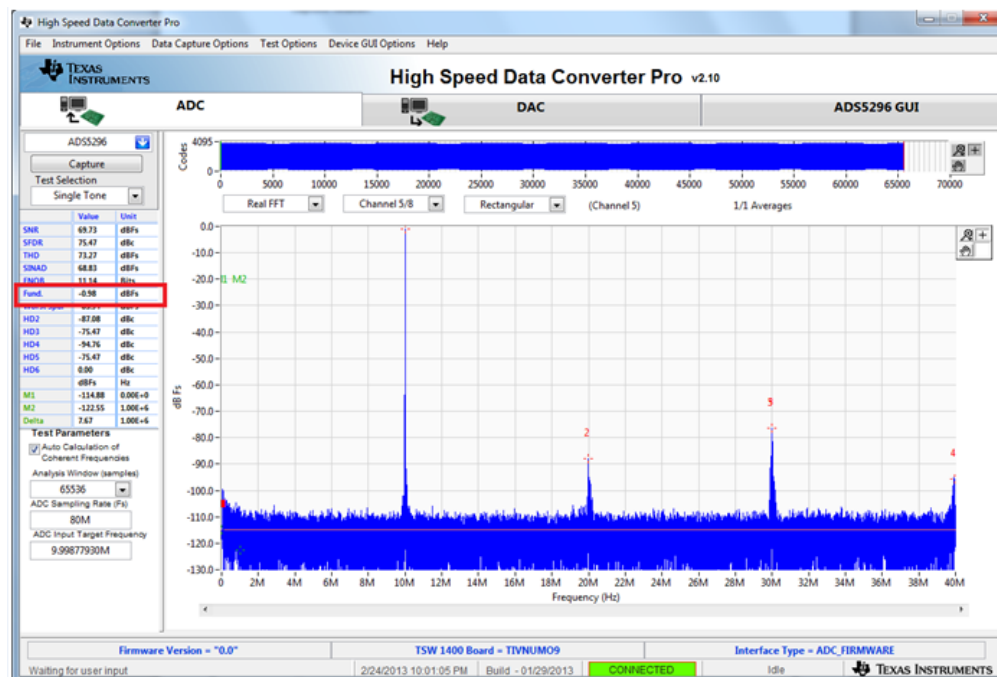
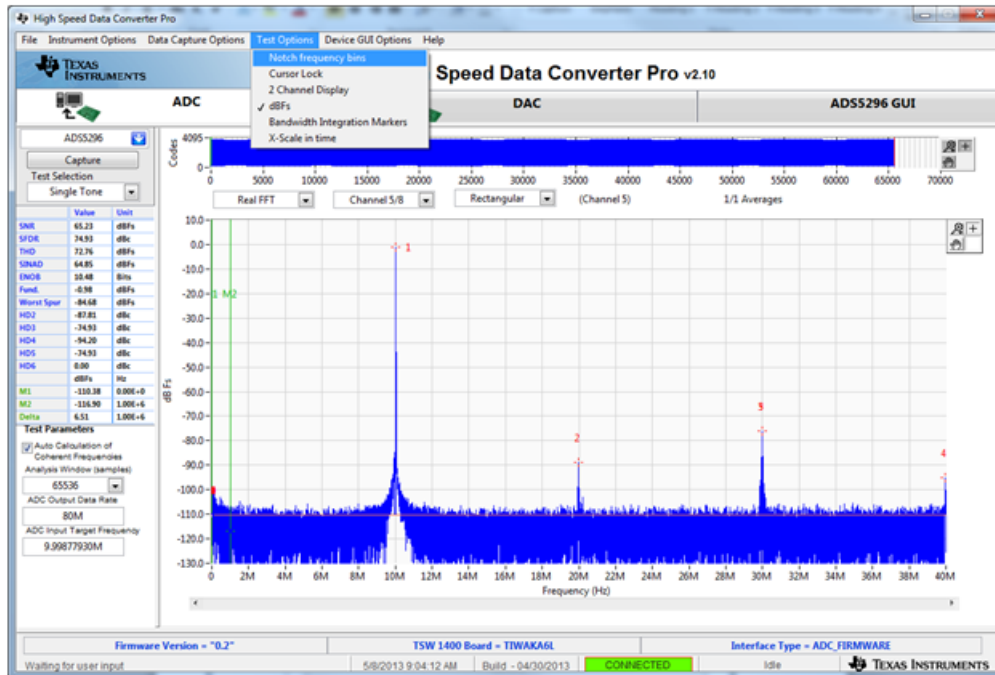
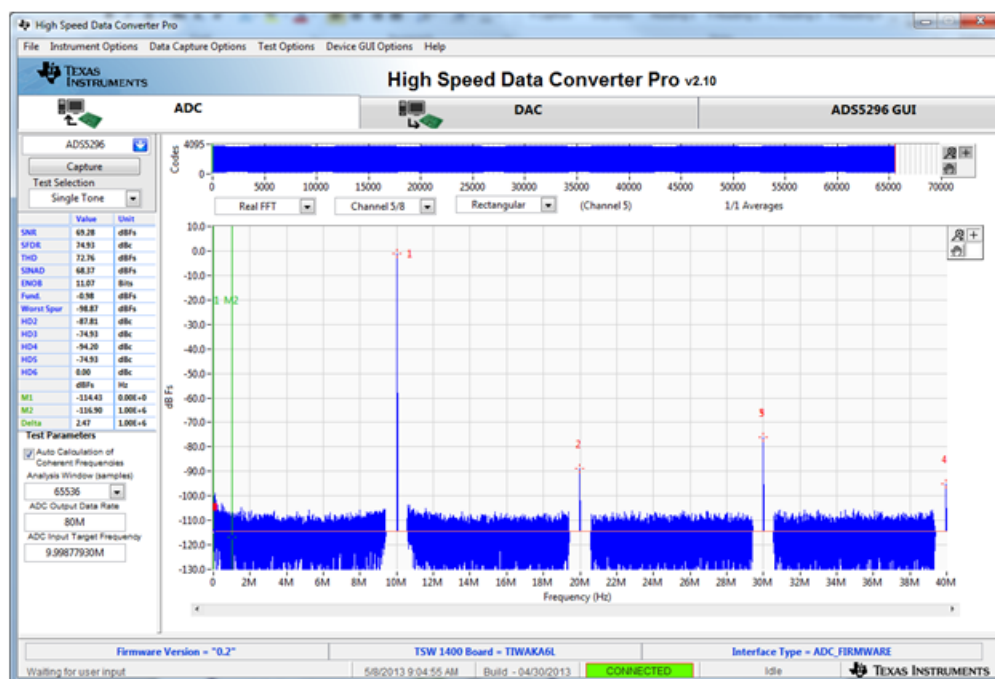

Figure 42. Octal Non-Interleaving Mode Capture 2
Figure 43. Octal Non-Interleaving Mode Capture 3
Figure 46. HSDCpro Capture with Software Filtering
- After re-capturing, the *Fund.* value is now closer to -1.0 dBFs as shown in Figure 42.
The SNR computed is highly dependent on the phase noise of the input signal source. Figure 42 and Figure 43 are with the exact same configuration, the only difference being the instrument used to provide the 10-MHz input signal. A 4.5 dB difference in the computed SNR is observed and is attributed solely to the integrity of the input signal, specifically the close-in phase noise.
The plot and all calculations will be updated accounting for these removed bins as shown in Figure 46. The SNR is now very close to the Software Filtering Menu SNR shown in Figure 43 using a superior instrument.